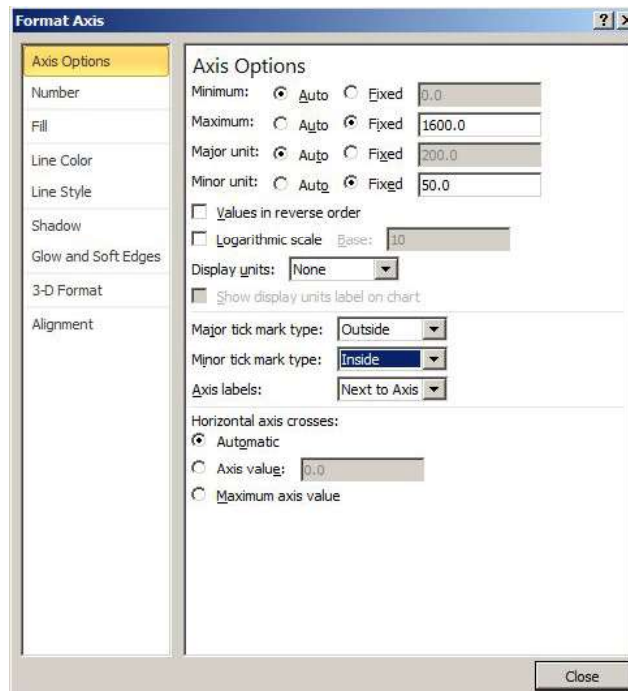

Figure 8.10: The Format Axis Menu. credit: author
7. There are several different menu's for changing the major chart options, formatting the axis, formatting data series and many other options. You can access these options by left-clicking on the desired feature and then right-clicking to bring up an options menu for that feature. For example, left-clicking on labels for the y-axis will bring up the format axis menu which allows you to set minimum and maximum values, spacings, tick marks and many other options. (See Figure 8.10.)